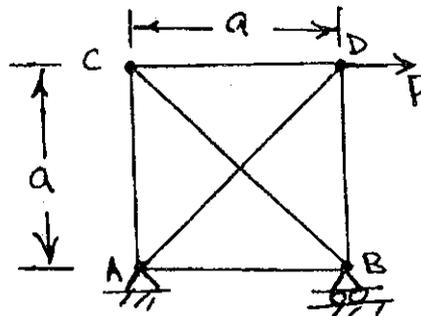

Fig. 5
- (b) Determine the forces in the system shown in the Fig. 5, assuming the cross section area of all bars equal and taking the force X in the diagonal AD as the statically indeterminate quantity.